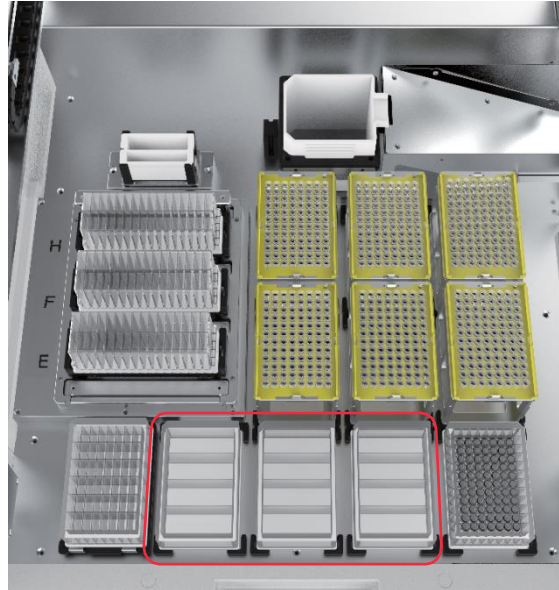

Figure 4. Location of each reagent
- a. Ensure that each reagent is placed in the correct position and orientation on the AmMag™ Quatro 1100 deck (Refer to Figure 4).